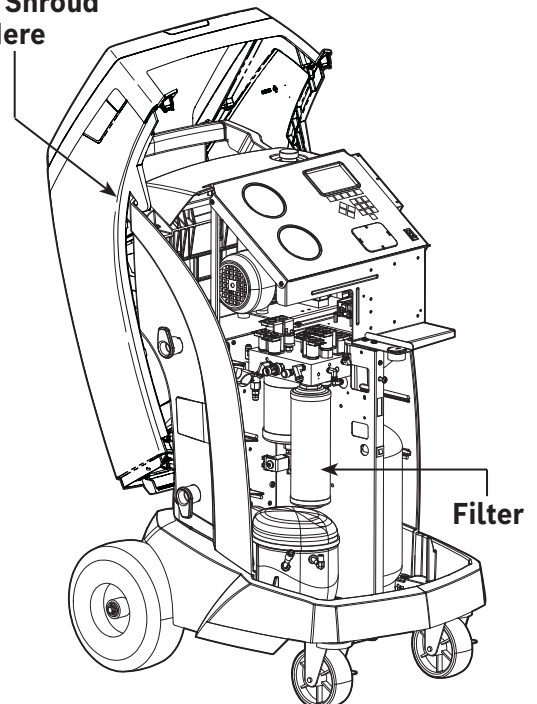

Figure 9
3. Hang the shroud on the back of the machine as shown in Figure 9.
6. Install the new filter by threading it clockwise into place. Verify the filter is positioned correctly as shown in Figure 9. Tighten the filter to 20 Nm (15 ft/lb).
4. Hang the shroud on the back of the machine as shown in Figure 9.